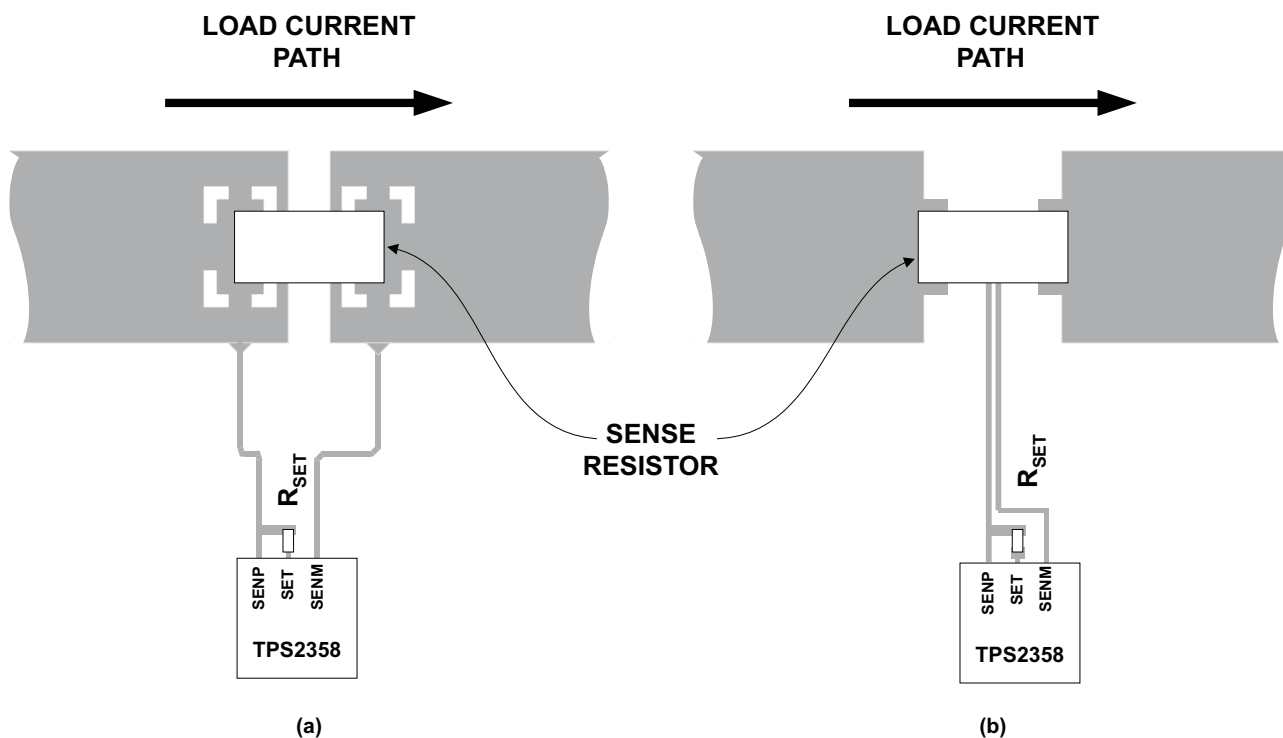

Figure 26. Recommended  $R_{SENSE}$  Layout
2. SENMx and SENPx runs must be short and run side by side to maximize common mode rejection. Kelvin connections should be used at the points of contact with  $R_{SENSE}$  (Figure 26).